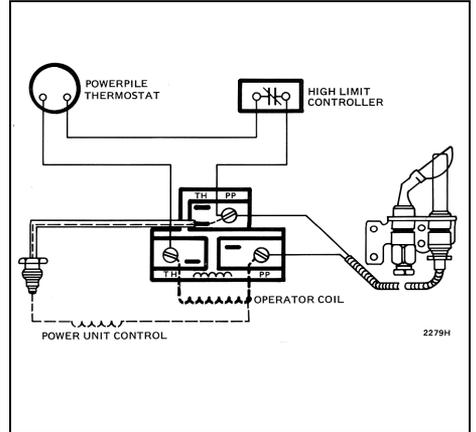

Fig. 7—Typical wiring connections for gas control with three-terminal operator.
3. Connect thermostat leads as shown in Fig. 7 or 8.